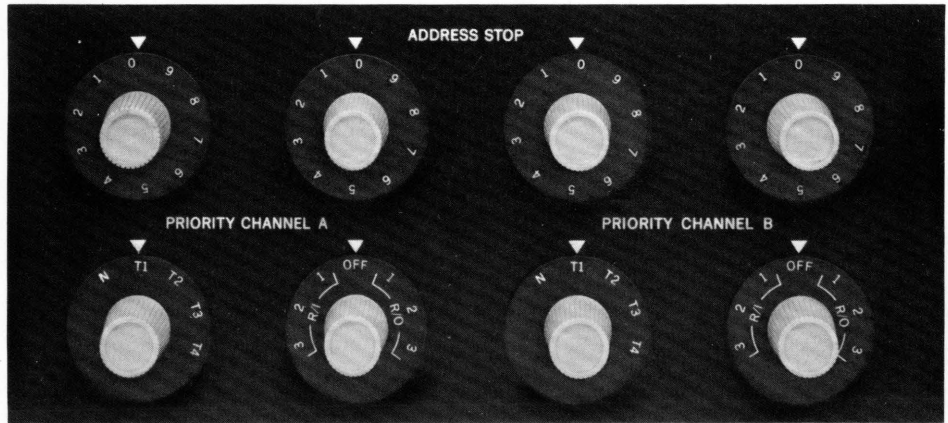

FIGURE 2.3-4 ADDRESS STOP AND UNIT - RECORD PRIORITY CONTROL SWITCHES
#### Address Stop Switches (4) (Figure 2.3-4)
Unit - Record Priority Control Switches (4) (Figure 2.3-4)